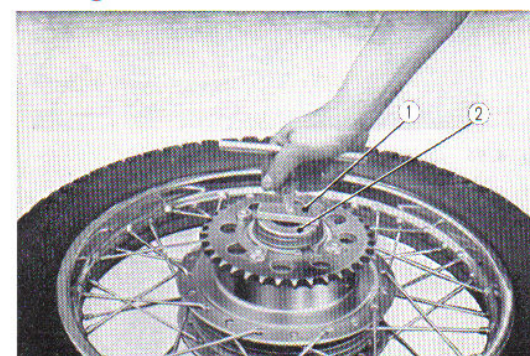

Fig. 4.93 Removing the bearing retainer
① 73.8mm circlip ② Final driven sprocket
③ 10mm nut
6. Use the special tool (rear wheel bearing retainer wrench) and remove the rear wheel bearing retainer. Pull out the 6304Z and 6305Z ball bearings, and rear axle spacing collar. (Fig. 4.93)